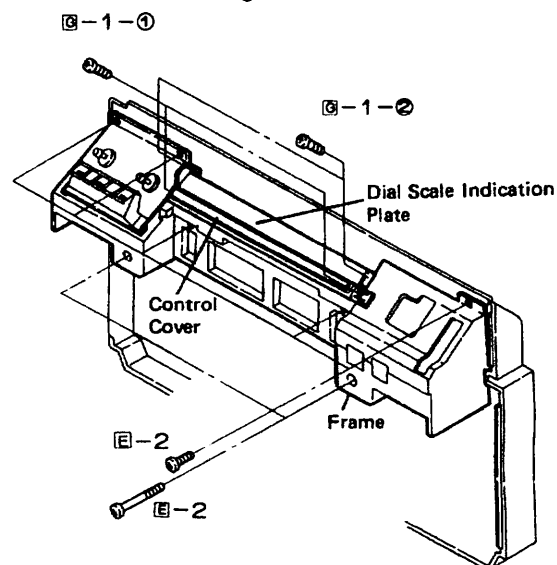

Figure 5-4
2. Remove seven screws at the frame, and take the frame off. See Fig. 5-4.
- ① Remove two screws at the control cover and a dial illumination lamp (PL901), and take the cover off. See Fig. 5-4.
- ② Remove two screws at the dial scale indication plate, and take the plate off. See Fig. 5-4.